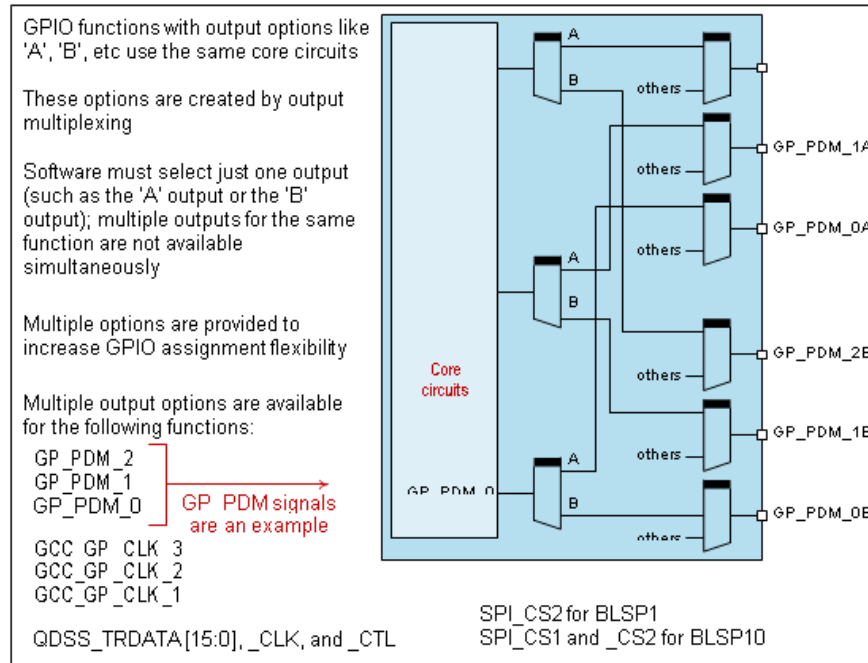

Figure 6 GPIO 'A/B' multiplexing
2. GPIO 'A/B' multiplexing is explained in Figure 6